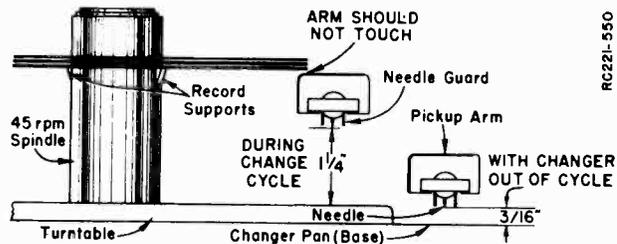

Figure 9. Checking Pickup Arm Height.
(See Figures 9 and 10)
After this adjustment has been made, the record changer should be run through its change cycle a few times to make certain that the pickup arm does not lift high enough to touch the bottom record of the stack to be played. This adjustment should be checked with the 45 RPM Spindle in place and a 45 RPM record resting on the record supports (67). See figure 9. If, for some reason, the arm touches the bottom record, a compromise adjustment should be made. Turn the screw out and lower the pickup arm slightly.